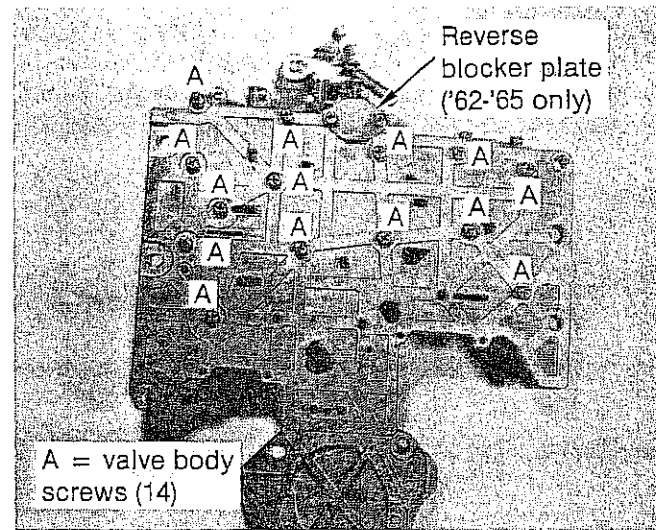
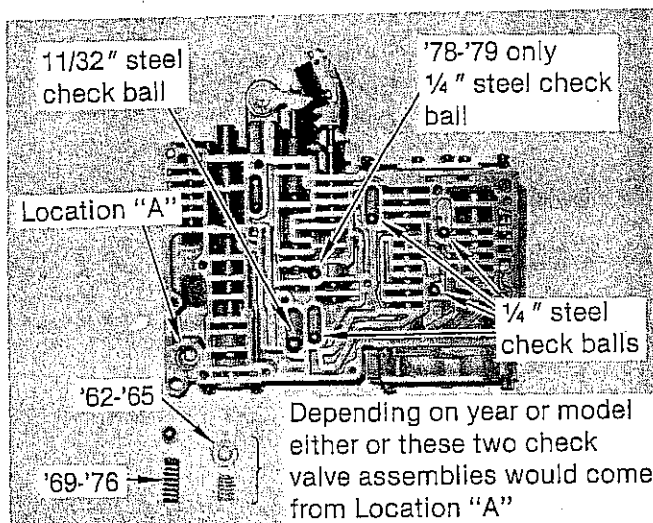
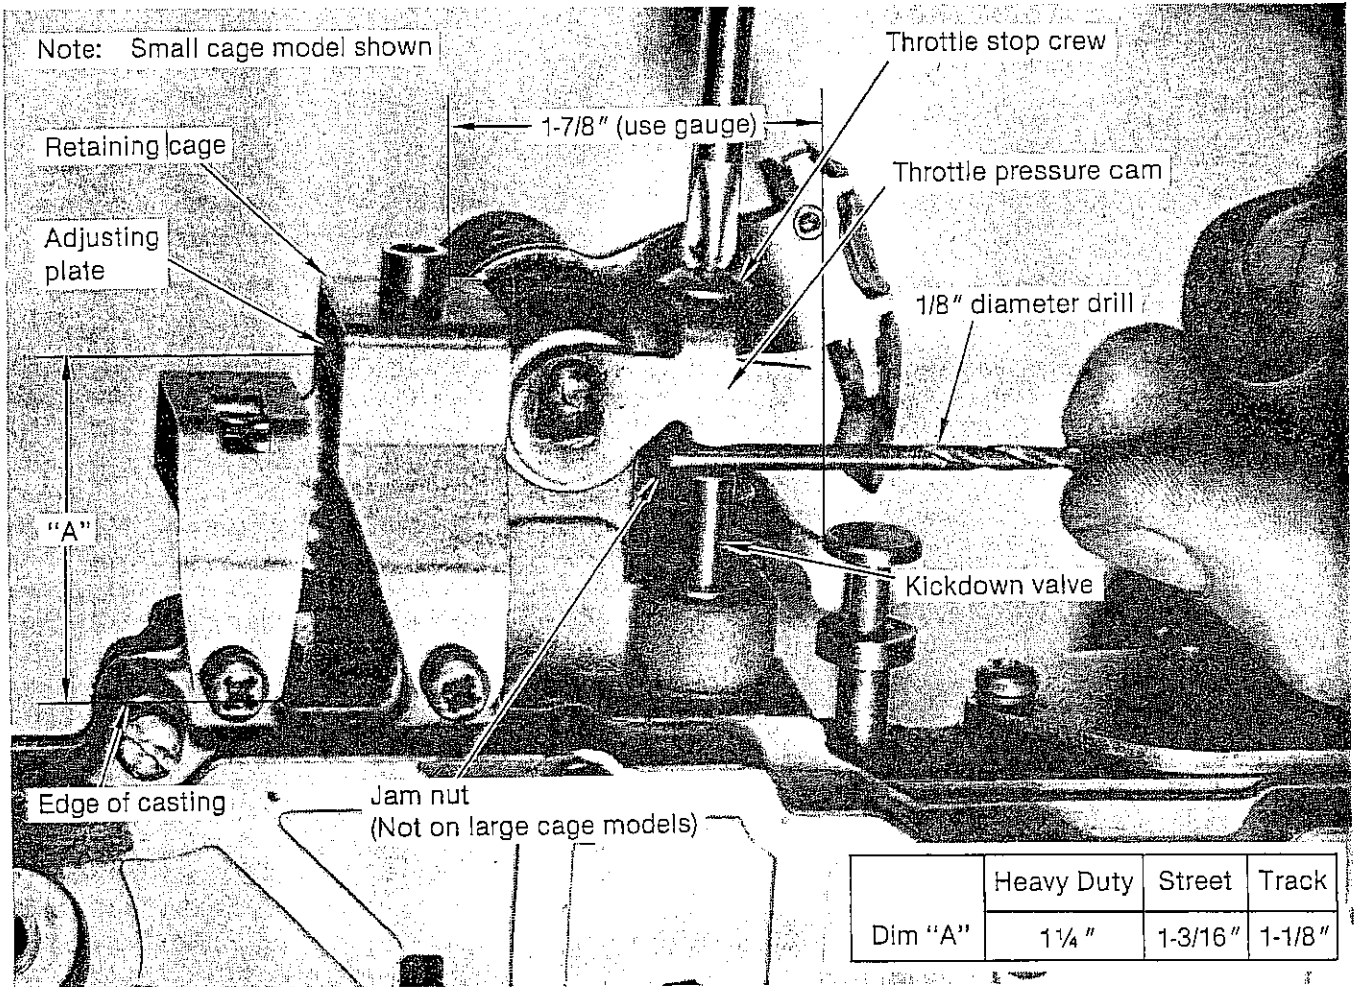

FIGURE 31
FIGURE 32
FIGURE 42
**STEP 2.** Set the valve body on the bench with the filter side up and the selector lever assembly in the top left corner. The valve body consists of: (1) a thick casting containing the valve bores and will be referred to as the **casting**; (2) a thin stamped steel plate with numerous different shaped holes called a **separator plate**; and (3) a thin aluminum casting that looks like a maze called a **transfer plate**.
**STEP 3.** Valve Body Disassembly: (See Fig. 31)
**STEP 4.** Remove valve body screws from transfer plate. (See Fig. 31) There will be fourteen of them with either phillips, slot head, or spline head on 1978 models. Hold the casting and transfer plate together with one hand while removing the last screw so you won't lose any internal parts. Carefully lift the transfer plate assembly off the casting to expose the oil passages. Turn the transfer plate assembly over so the separator plate is facing up and set it to your right. Inspect your casting for the following: (See Fig. 32)
**All valve bodies:** '62-'77 have five 1/4" diameter steel check balls and one 11/32" diameter steel check ball in the casting. '78-'79 have six 1/4" balls and one 11/32" ball. (See Fig. 32) Remove these and place them in the tray.
**STEP 15.** Tighten fourteen screws attaching transfer plate to casting on the bottom of the valve body to 35-in. lbs. Tighten all end plate screws to 35-in. lbs. Adjust pressure regulator spring retainer cage from side to side until the distance from the manual valve to the adjusting screw is 1-7/8". Use the gauge supplied to check this measurement. (See Fig. 42) Tighten three short retaining screws to 35-in. lbs. At this point all screws should be tight. '62-'65: Install new seal on reverse blocker valve. Install reverse blocker valve spring and valve with seal up. (See Fig. 31) Rotate valve to engage separator plate properly. Install end plate and two short screws. Tighten to 35-in. lbs.
**STEP 16.** Throttle Pressure Adjustment: (See Fig. 42) Place valve body on bench and hold it on end so the throttle pressure assembly points up. Insert the 1/8" drill between the kickdown valve and the throttle pressure cam and adjust the throttle stop screw until it just touches the cam. Tighten jam nut securely. (Note: Large cage models have no jam nut.)
plate. (See Fig. 42) Use a 3/16" Allen wrench to adjust the plate to dimension shown.